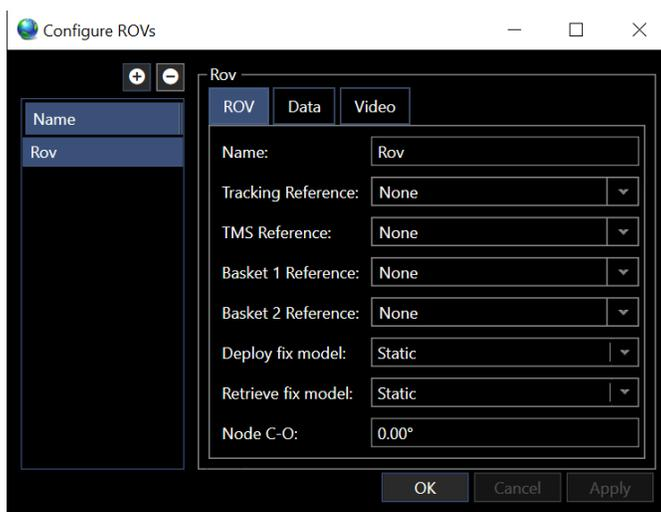

FIGURE 5 CONFIGURE ROVS – ROV TAB
1. Click the **Setup ROVs** button on the **Node Dashboard** ribbon or select **ROVs** in the Node Dashboard section of Explorer to open the Configure ROVs page, see Figure 5.